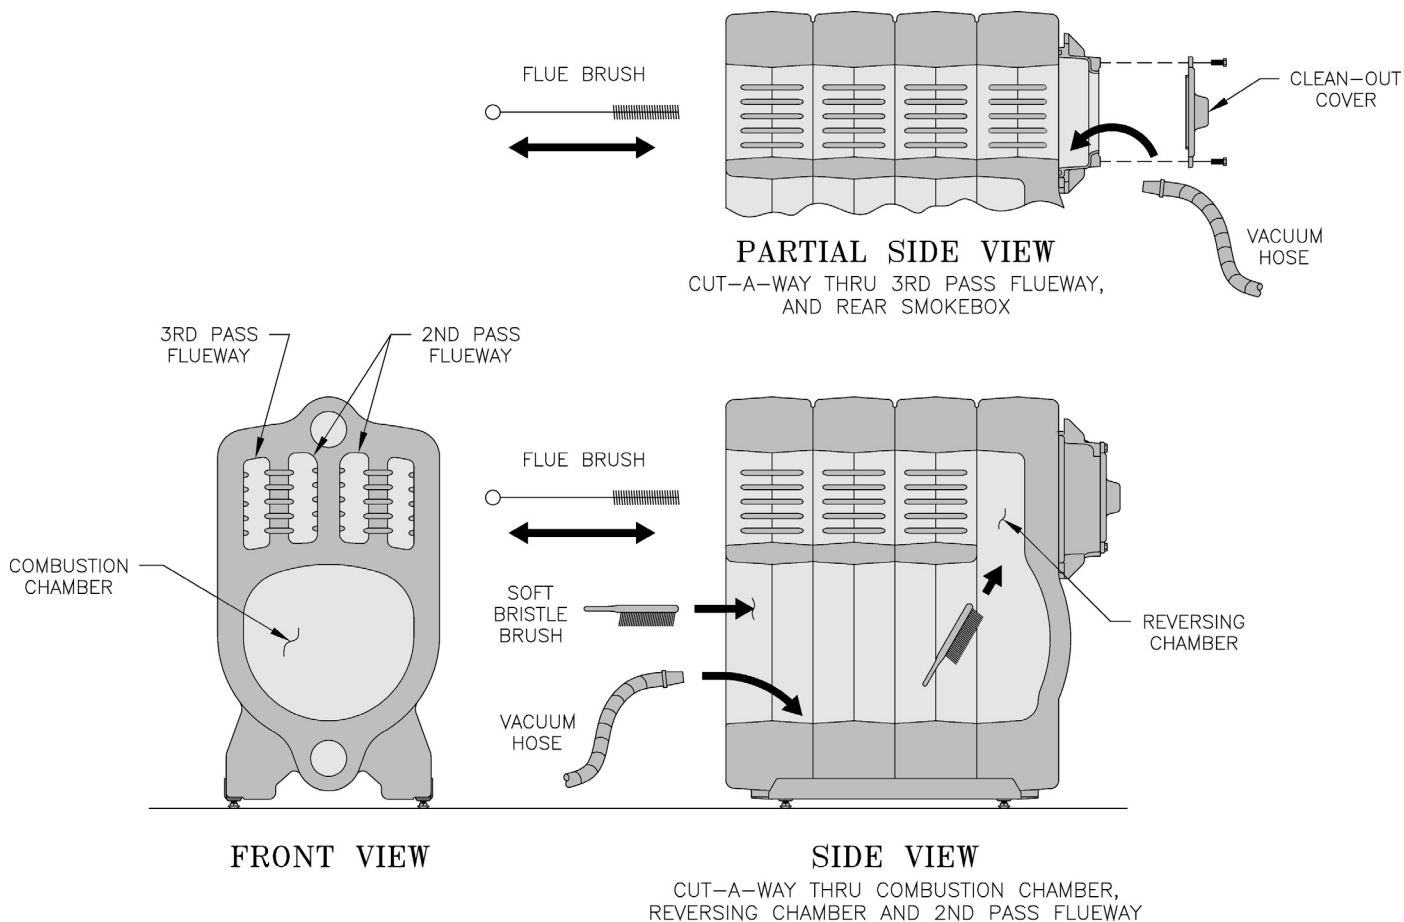

Figure 11-1: Cleaning of Boiler Flueways
A. CLEAN THE FLUEWAYS (See Figure 11-1).
1. For access to the combustion chamber remove the two (2) 3/8 in. - 16 cap screws. If boiler is equipped with flexible fuel line(s), swing door open.